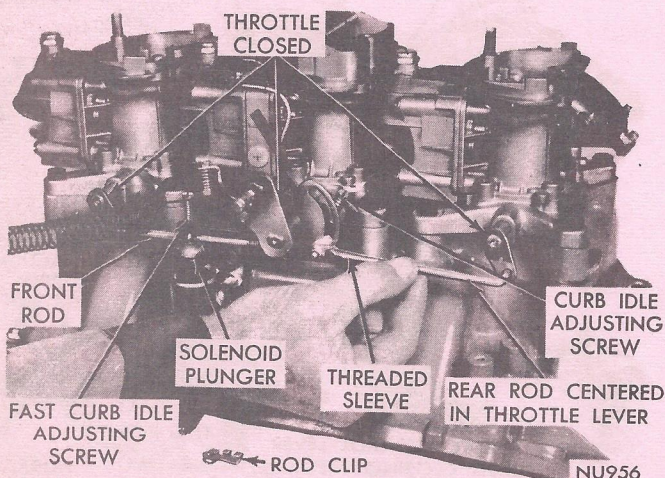

Fig. 30—Outboard Carburetor Throttle Rod Adjustment
(1) Remove air cleaner (if not previously done), then remove outboard throttle connector rod clips and disengage front and rear rods from throttle levers (Fig. 30).
(2) If this adjustment is to be done on vehicle, be sure ignition switch is **OFF**. (This de-energizes fast curb idle solenoid so that clearance is obtained between plunger and fast curb idle adjusting screw.)
(3) Close throttle valves on the two outboard carburetors and the center carburetor. Hold in closed position.
(4) Shorten or lengthen the front and rear connector rods by turning rod in or out in threaded sleeve, until rod end can enter hole in throttle lever evenly (Fig. 30).
(5) Install throttle connector rod in lever and secure with clip.
(6) Re-adjust fast curb idle adjusting screw with engine running to obtain 900 rpm idle for vehicles equipped with automatic transmissions and 1000 rpm for manual transmissions.